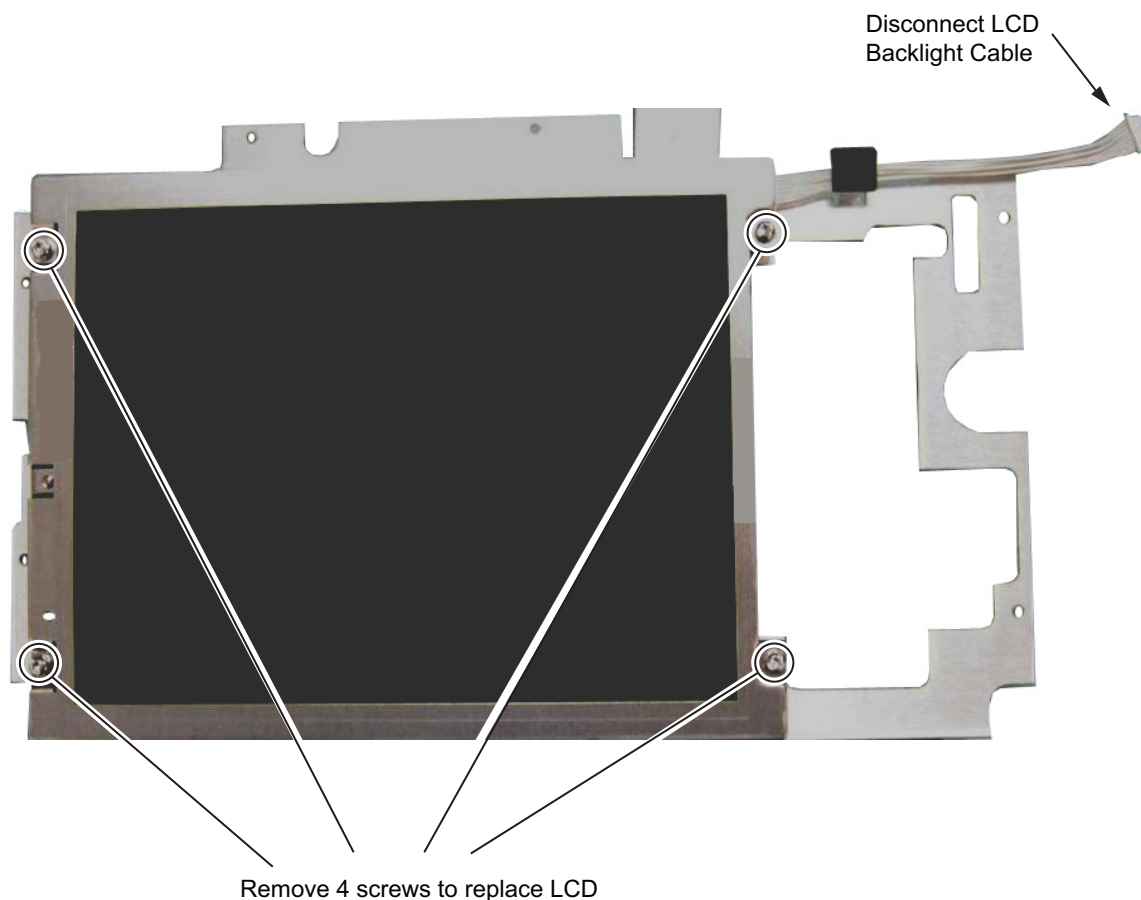

Figure 5-10. Replacing the LCD
6. Remove the four screws securing the LCD Display to the bracket assembly (Figure 5-10).